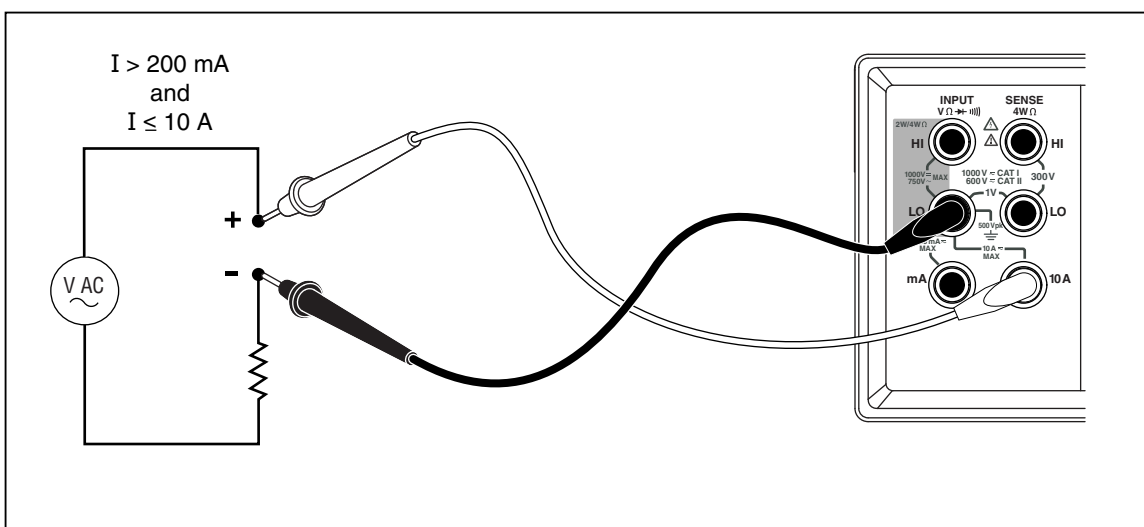

Figure 3-9. Current Measurement  $200 \text{ mA}$  to  $10 \text{ A}$
5. For measurements expected to be 200 mA to 10 A, connect the test leads to the 10 A and LO terminals only. See Figure 3-9.